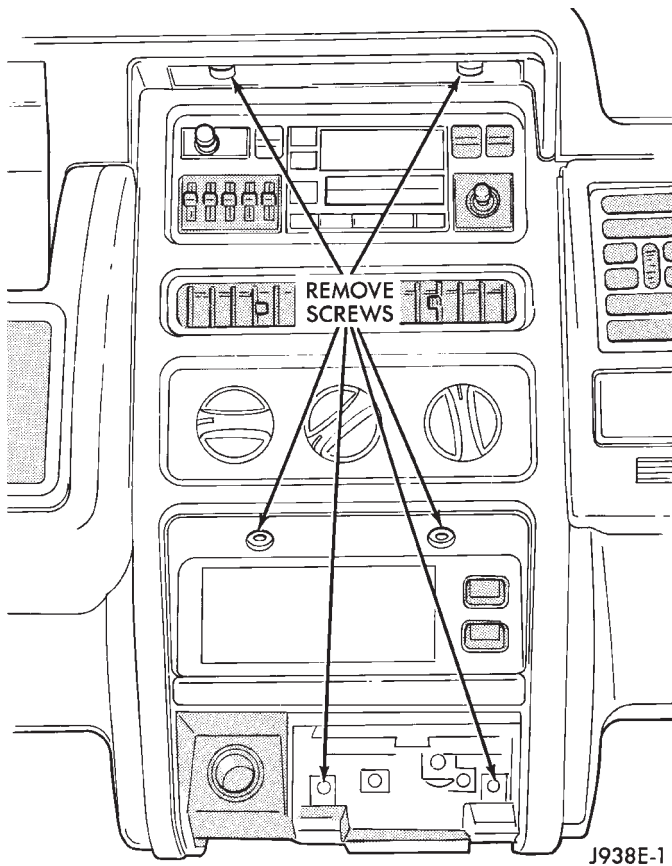
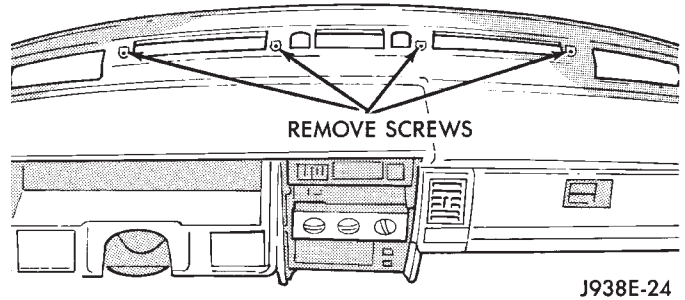

Fig. 1 Remove Center Bezel Retaining Screws
Fig. 2 Upper Dash Pad Attaching Screws
- (Fig. 1).
- (4) Remove center bezel.
- (5) Remove 2 screws holding dash pad.
- (6) Gently pry defroster grille out of dash pad.
- (7) Unplug sensors (if equipped) and set defroster grille aside.
- (8) Remove 4 screws in defroster duct opening holding dash pad (Fig. 2).